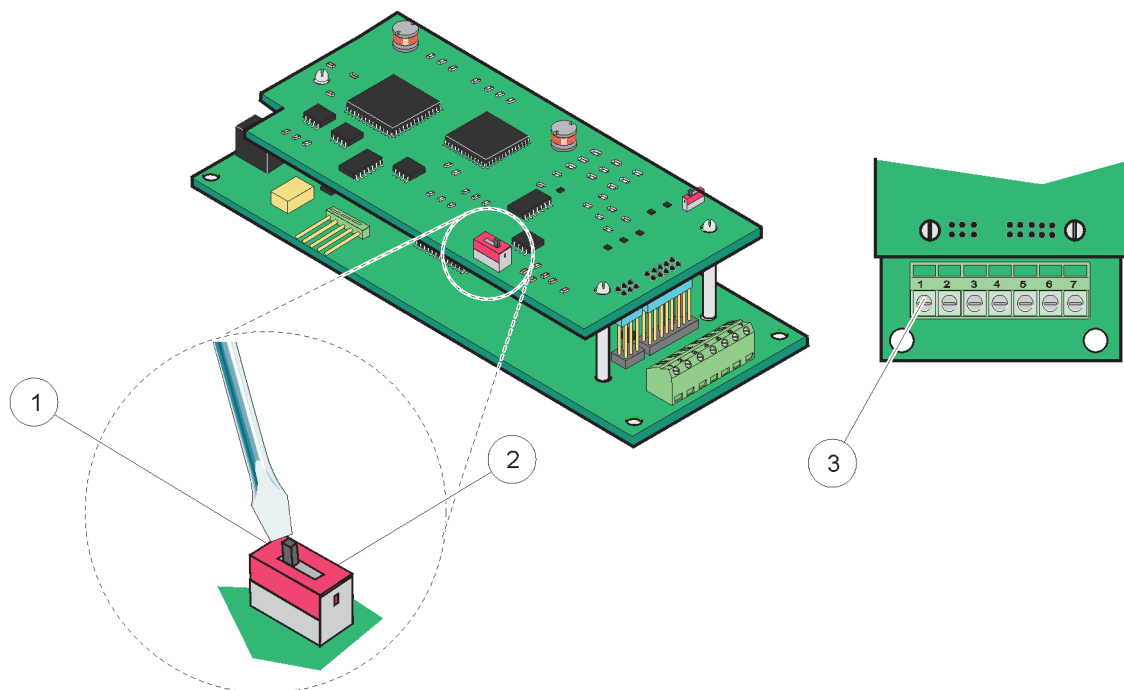
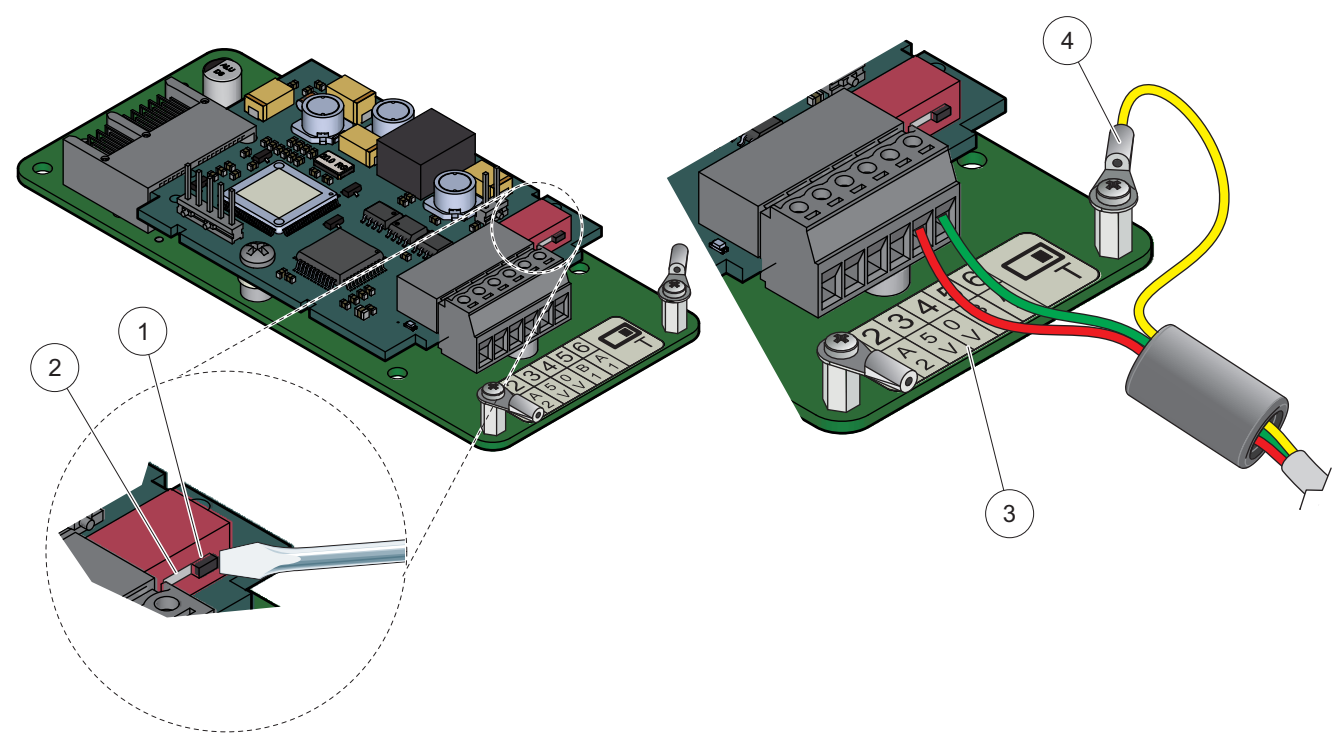

Figure 25 Profibus DP card (YAB020 up to December 2013) connections
Figure 26 Profibus DP card (YAB103/YAB105 since December 2013) connections
- 4. Feed the cable through the base of the module and properly prepare and insert each wire into the terminal according to Figure 25 and Table 8 or Figure 26 and Table 9. Make sure that the shield is connected to a threaded spacer on the board.